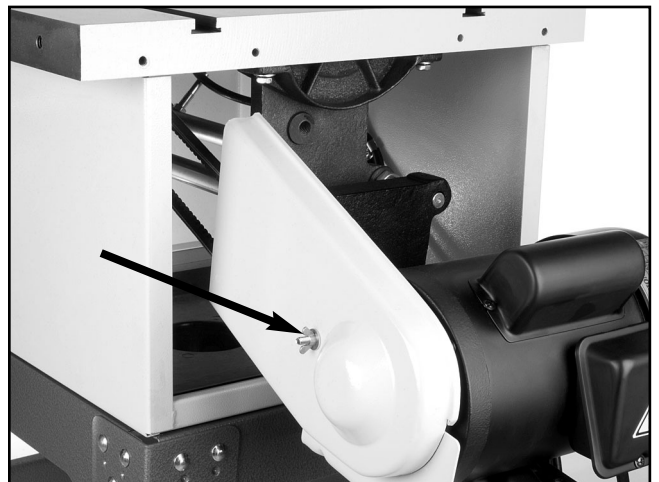

Figure 24. Installed pulley cover.
11. Secure the V-belt guard to the V-belt plate with the brass wing nut (**Figure 24**).